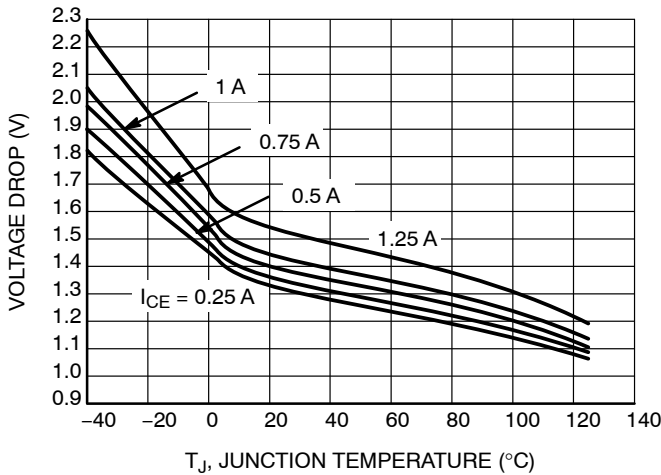

Figure 7. Emitter Follower Configuration Output Darlington Switch Voltage Drop vs. Temperature
- 8. V_{SWCE} – Darlingtion Switch Collector to Emitter Voltage Drop, refer to Figures 7, 5, 8 and 9.